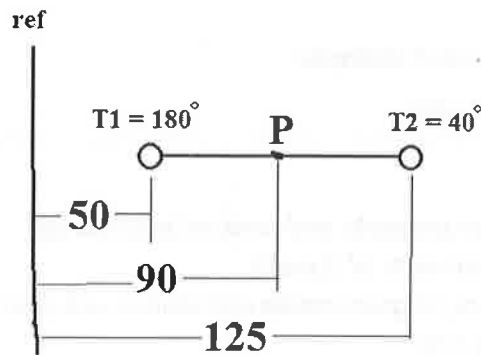

Fig.2
4. Determine the shape function and temperature at point "P" for an element shown in fig. 2